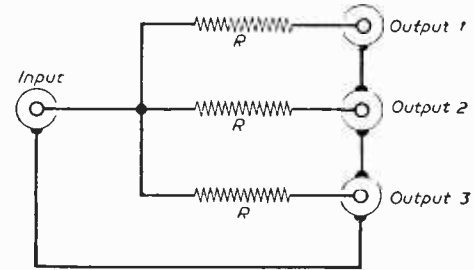

Fig. 7.—Method of working more than one set from the same input.
E.g., if we require three outlets (Fig. 7) we get, if the impedance of the aerial is 75 ohms,